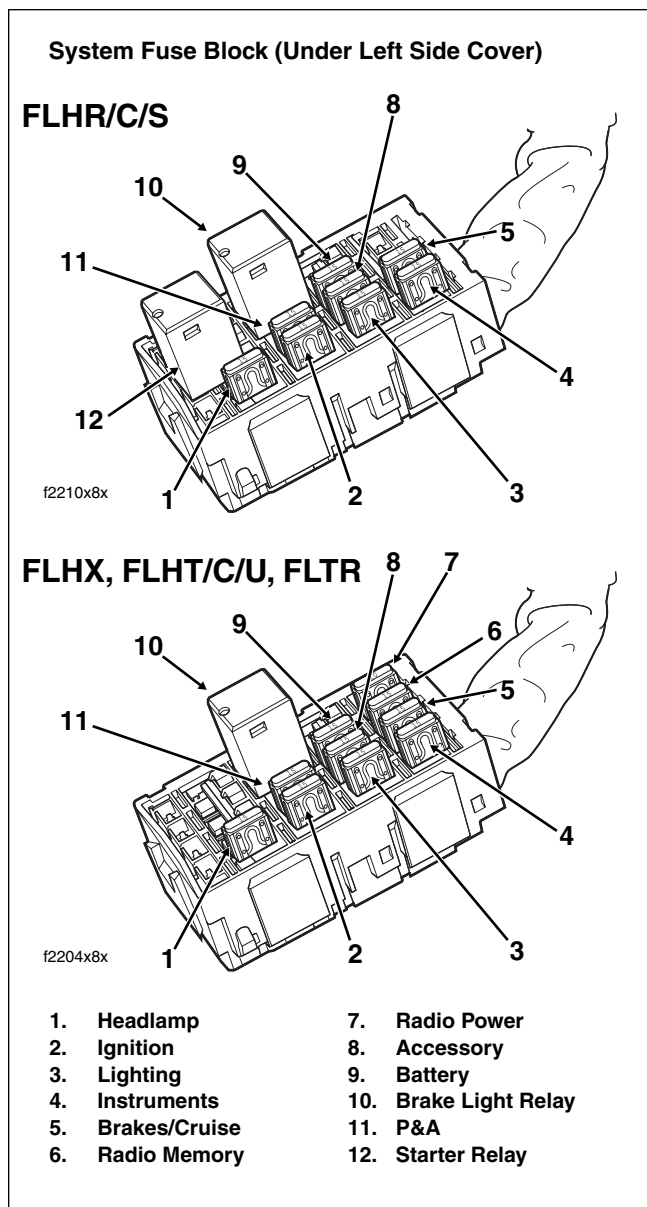

Figure 3-19. Fuse Locations
See Figure 3-19. When the Ignition/Light Key Switch is turned to IGNITION, the security lamp should illuminate for 4 seconds. Following the initial period of illumination, the lamp should go off for 4 seconds. It may then come back on for an 8 second period, indicating an historic DTC, or remain on, indicating a current DTC.
- Check for blown battery fuse. See Figure 3-19.